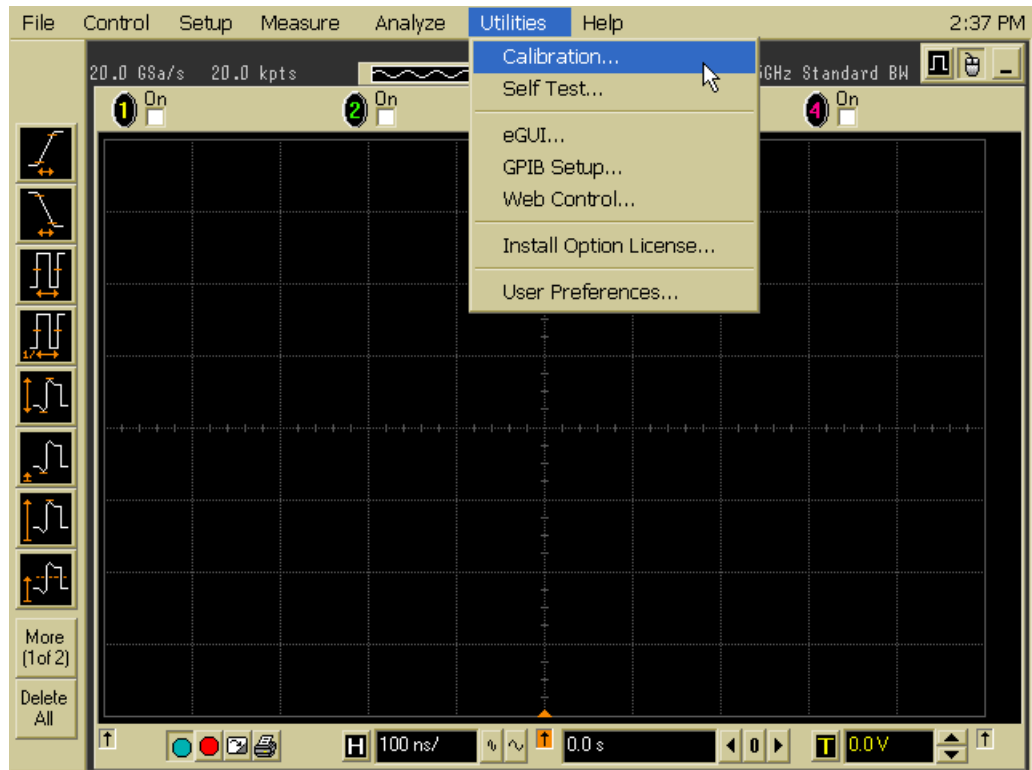

Figure 92 Accessing the Calibration Menu
- 3 Referring to Figure 92 below, perform the following steps: